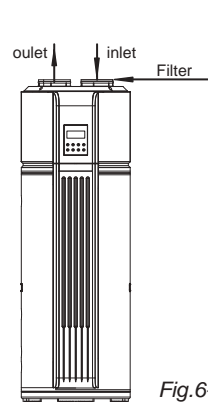
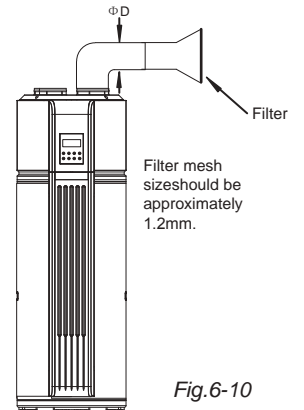

Fig.6-9
Fig.6-10
- There is a filter on the inlet. In terms of the heat pump connected with duct, additional filter may be put forward to the air inlet of duct to protect possible blockage. (Fig.6-9 and Fig.6-10)